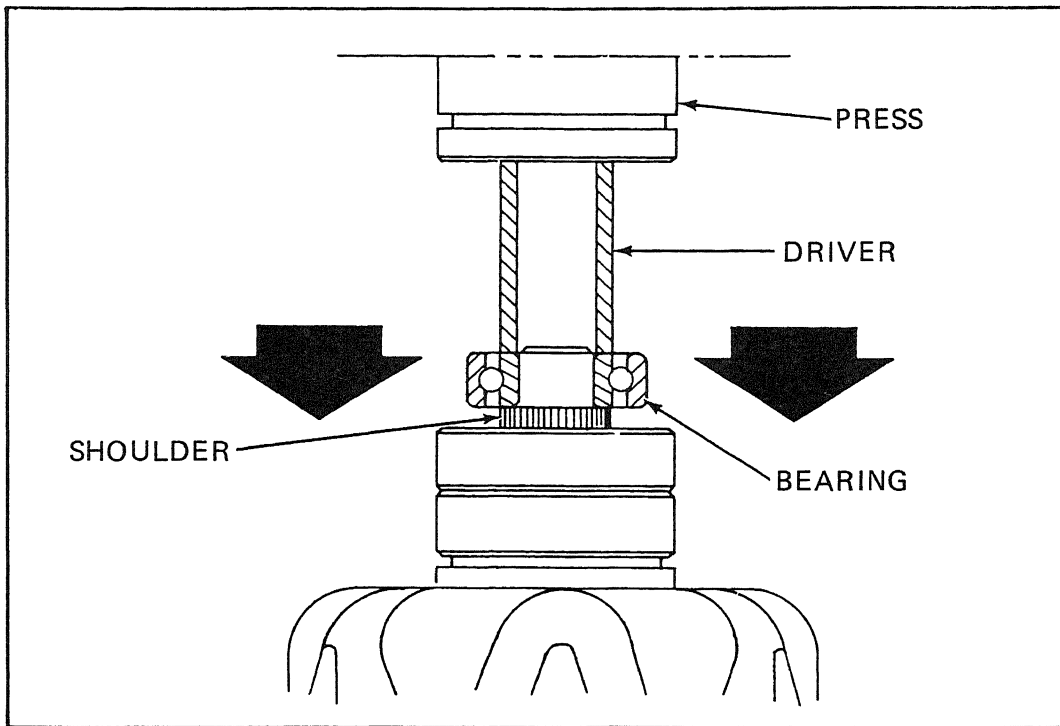

Figure 5-28.27. Installing Rear Bearing
- (3) Support the pulley end of the rotor on an arbor press. Place the rear bearing over the end of the shaft. Using a driver that contacts only the inner race, press the bearing onto the shaft until it contacts the shoulder (Figure 5-28.27).